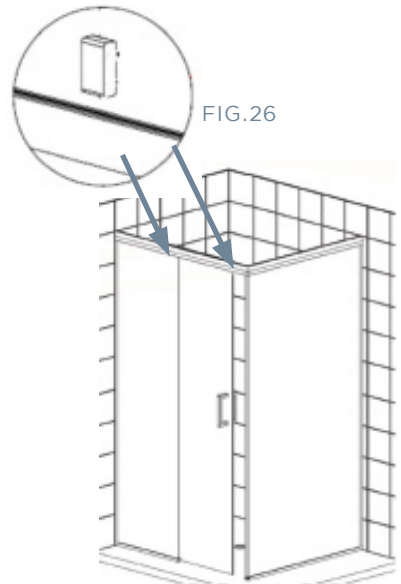

FIG.26
- Carefully move door to the open position (5-10mm before door handle strikes the glass) and slide along the plastic door stop up against the back wheel. Screw down through the top of the track (FIG 26).